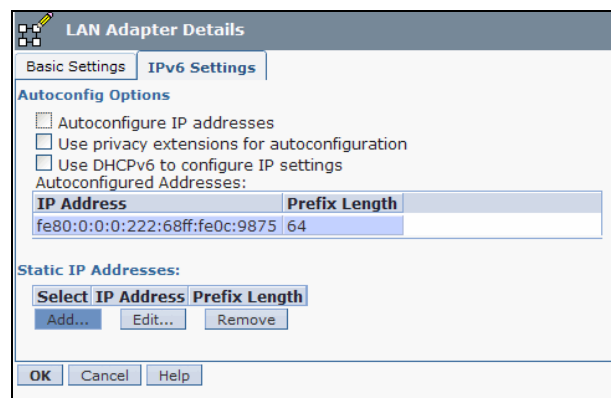

Figure 9-8 WebUI IPv6 settings window
7. Click the **Add** button to add a static IP address to this adapter. Figure 9-8 shows the LAN Adapter Details window where you can configure the IPv6 values.